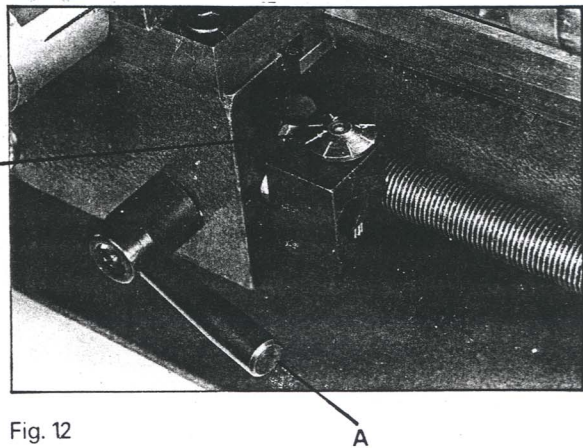

Fig. 12
Adjust the feeding direction selector to the direction you desire. Press down the handle (A) in figure 12, and continue with the automatic feeding procedure. When feeding, never try to change the feeding direction.
Select the feeding direction selector to the thread direction desired. Then press down handle (A) in figure 12 by matching the right calibrations on the thread dial indicator (B) and continue with the automatic threading procedure. When threading, never try to change the direction.